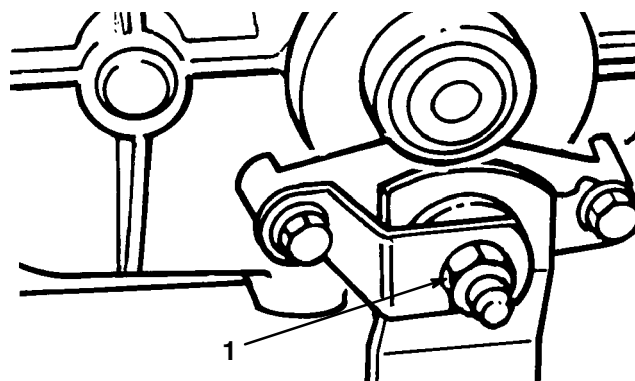

Figure 19
Adjust brake pucks if the parking brake does not hold or braking power is not sufficient when brake pedal is depressed. The brake is located on the left side of the transaxle (Fig. 19).
3. Tighten locknut approximately 1/4 turn clockwise (Fig. 19).